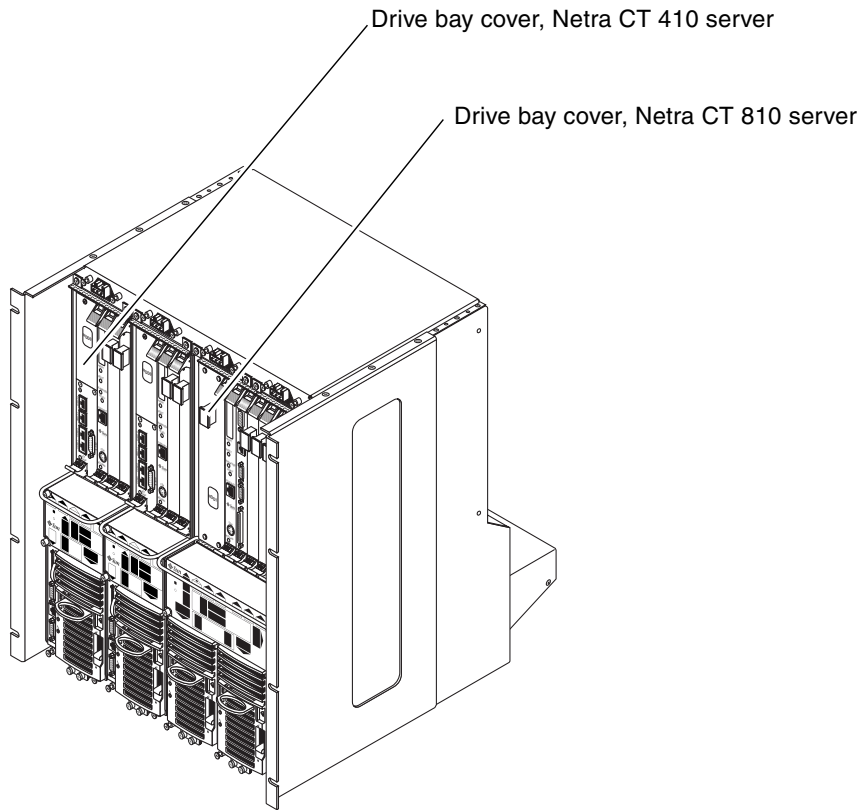

FIGURE 7-2 Drive Bay Cover Locations
2. Remove the drive bay cover (FIGURE 7-2).